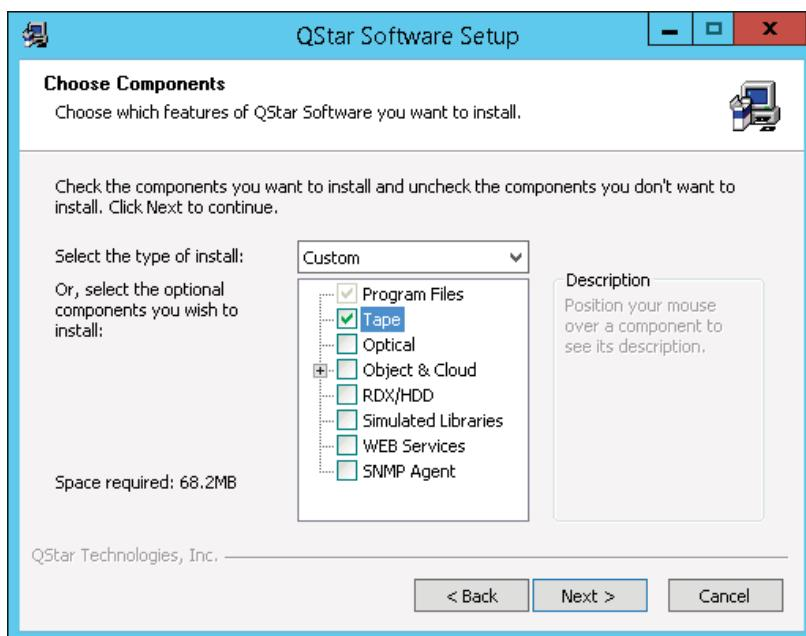

Figure 9. Choosing which components will be installed
10. The following screen allows you to specify which components you want to be installed and choose which archive technologies will be used by QStar software. A **Typical** installation, which is the default, will include NO components thus requiring the System Administrator to select the correct component and technologies. Once a choice is made, the installation will become **Custom**. For this white paper, the type of install was **Custom** as **Tape** was selected as the optional component to install since an MSL6480 Tape Library was being used. Descriptions for each component can be found in the QStar ASM HPE CVTL Support Manual. See **figure 9** as an example. Once you have made your selections, select **Next**.